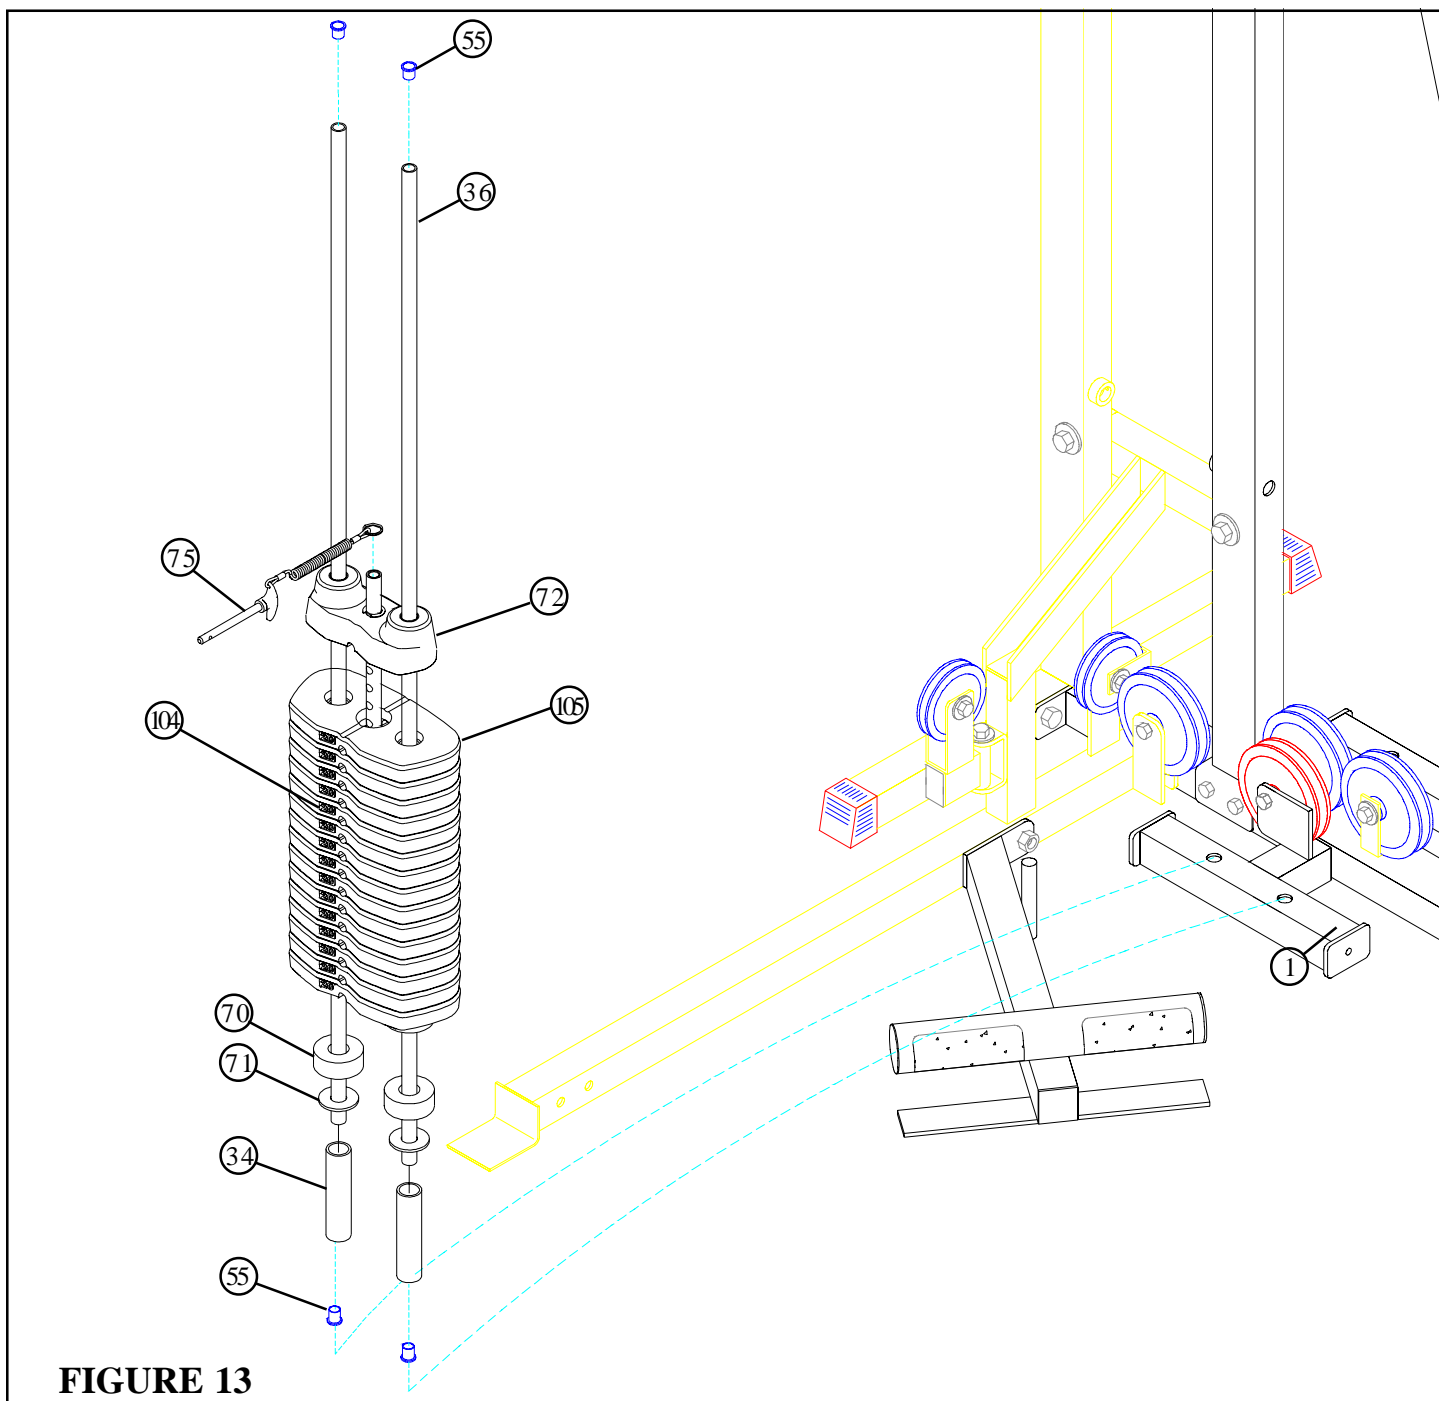

FIGURE 13
- Insert four CAP PLUGS (55) into the top and bottom ends of the GUIDE RODS (36) as shown in FIGURE 13.
- Insert two GUIDE RODS (36) into the BASE (1) as shown on FIGURE 13. (**NOTE: Lubricate GUIDE RODS (36) with silicon or teflon spray available at most hardware stores.**)
- Slide two WEIGHT STACK SPACERS (34), two 3/4" WASHERS (71), and two WEIGHT STACK CUSHIONS (70) - **IN THAT ORDER** - down over the GUIDE RODS (36).
- Using **EXTREME CARE** slide all fifteen WEIGHT PLATES (105) down over the GUIDE RODS (36) on to the WEIGHT STACK CUSHIONS (70). Make sure that the keyholes of the WEIGHT PLATES (105) are all facing the right way. (**NOTE: If the 216101 50 LB. ADD-KIT is purchased refer to the 216101 ASSEMBLY INSTRUCTIONS now.**)
- Slide the head plate assembly down over the GUIDE RODS (36) onto the weight stack.
- Attach the WEIGHT STACK LABELS (104) to the weight stack. Also insert the WEIGHT STACK PIN (75) into the first WEIGHT PLATE (105) of the weight stack.